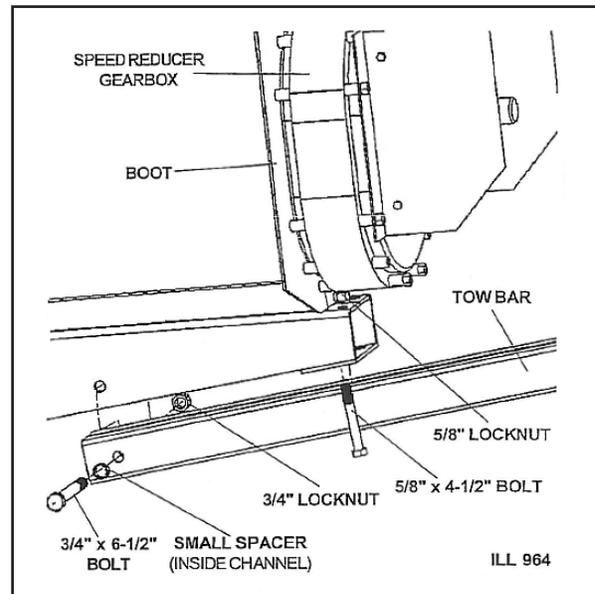

Figure 5
9. Loosen 5/8" locknut and remove the vertical 5/8" x 4-1/2" long bolt from tow bar. Loosen the 3/4" nut underneath the boot and remove the 3/4" x 6-1/2" long bolt out of the tow bar and boot channel. Slide the adjustable tow bar along the boot channel until the hole in the tow bar lines up with the second hole in the boot channel (Figure 5).